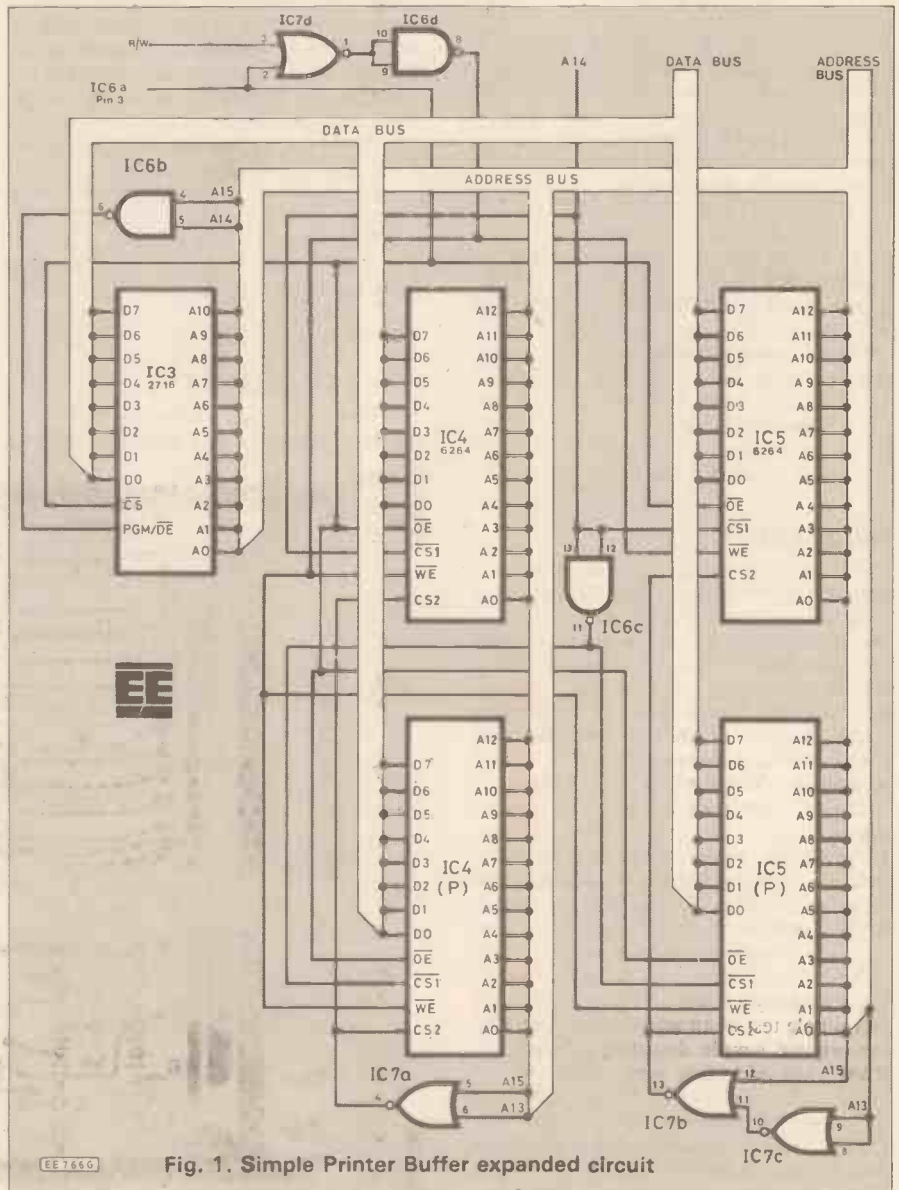

Fig. 1. Simple Printer Buffer expanded circuit
quires the use of an inverting gate. There are spare NAND and NOR gates available in IC6 and IC7—any of these would serve by joining the two inputs together. The chosen gate has inputs 15 and 14, and output 13 on IC6. The inverter acts on address line A14 (Fig. 1) producing a signal which is low in address space 16K to 32K. This inverted signal will select the two new memory chips, distinguishing them from the original memory which is selected in address space 0K to 16K. The original chips are selected by a non-inverted ver-
4. The line going to pin 5 of IC6 in Fig. 1 should be labelled A14 and not A16.